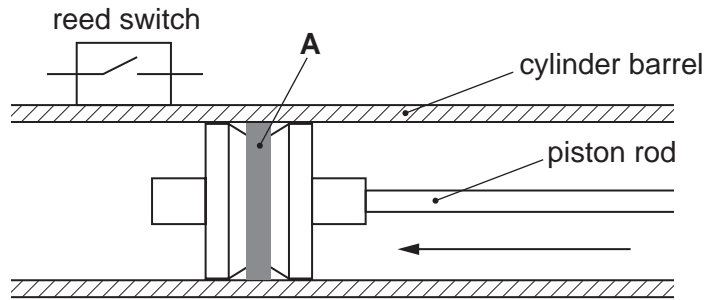

Fig. 2
Fig. 2 shows a simplified version of a reed switch cylinder.
- (i) Name the component A in Fig. 2.